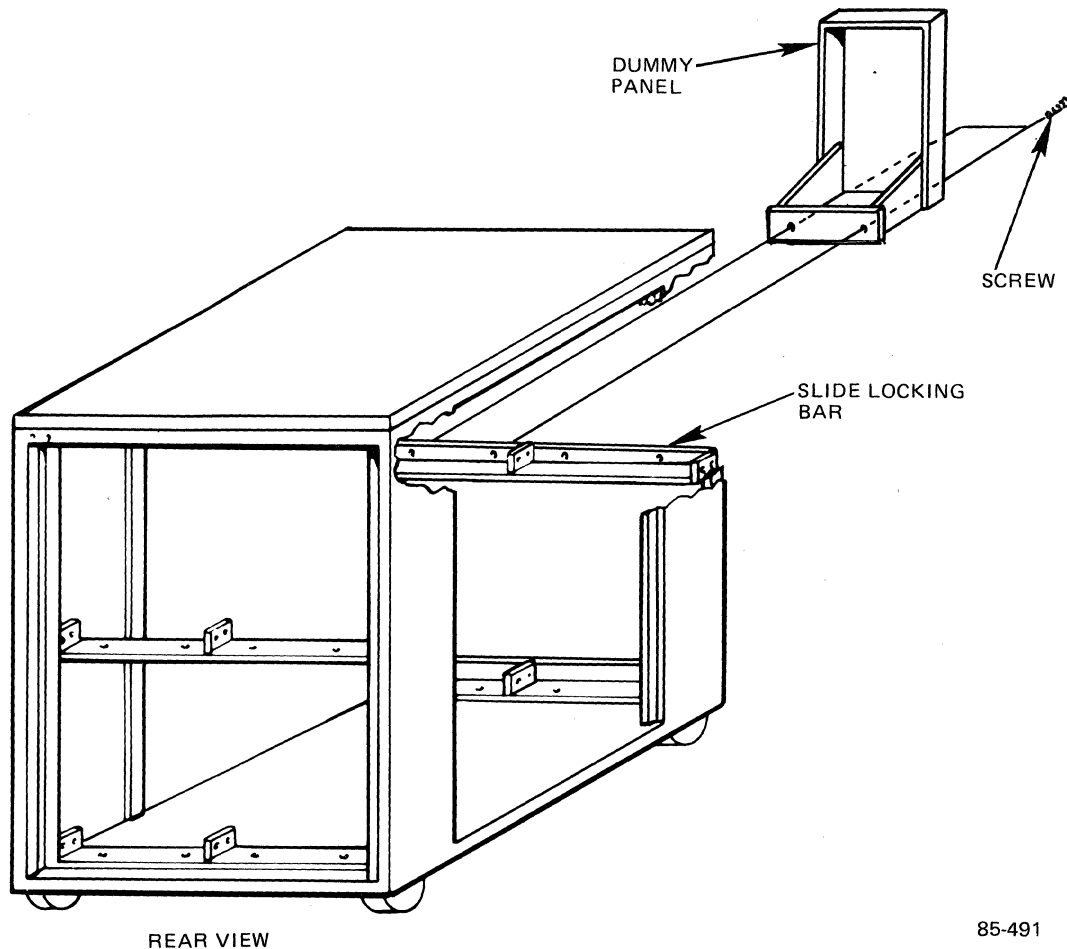

Figure 2-14. Installing the Dummy Panel
18. Install a dummy panel over any unused disk drive positions with the two screws provided as shown in Figure 2-14.